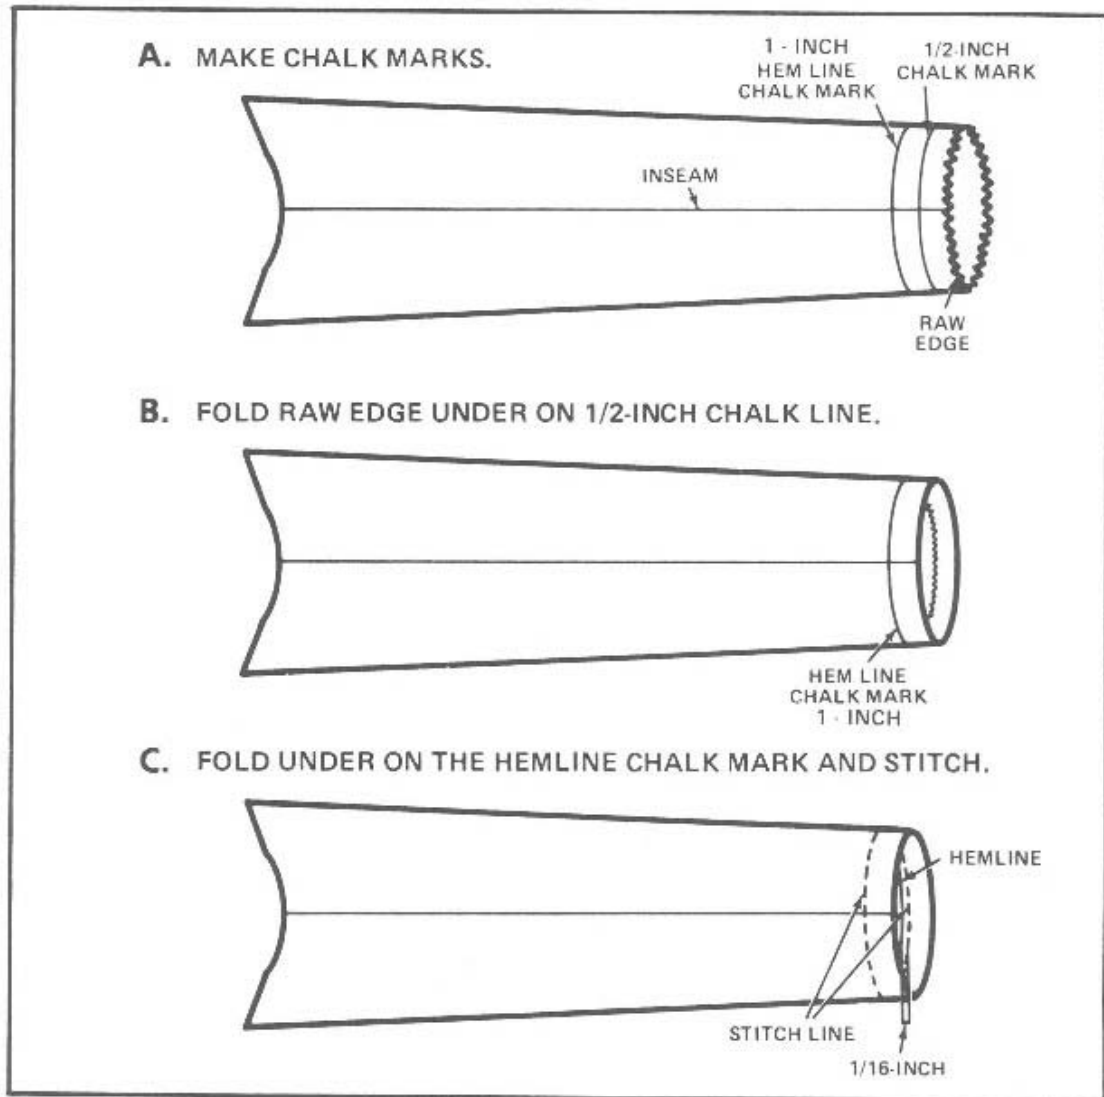

Figure 3-65
- b. Finish the stitch row with a 1-inch tack. (See Figure 3-65)